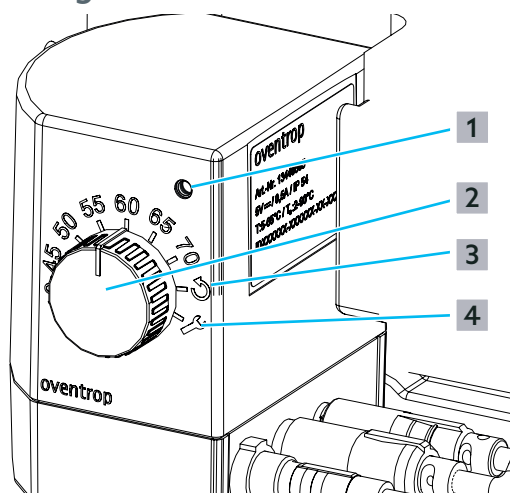

Fig. 35: Status messages and error messages at the actuator
If the rotary knob is set to the error reset index ((3) in Fig. 35 on page 35) for longer than 5 seconds, then the displayed error is reset and a calibration run is started. As long as the rotary knob is set to the error reset index ((3) in Fig. 35 on page 35), a calibration run of the actuator is started again and again, during which the closing point of the control valve is detected.
- ▶ Set the rotary knob to the error reset index ((3) in Fig. 35 on page 35) for longer than 5 seconds to reset an error.